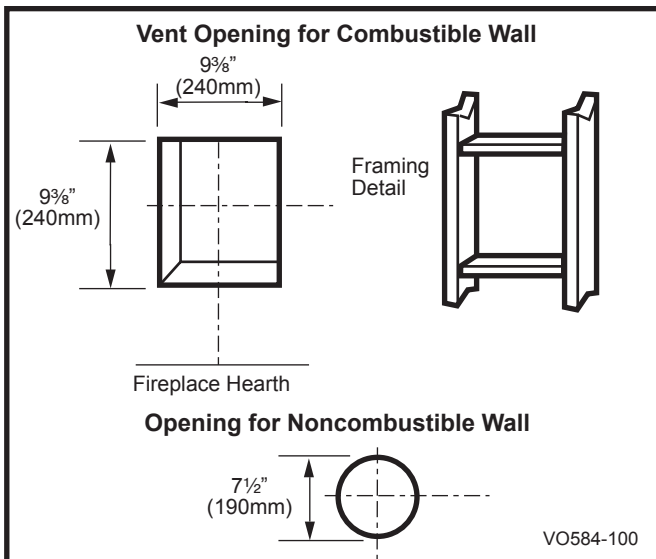

Fig. 17 Locate vent opening on wall.
Locate vent opening on the wall. It may be necessary to first position the fireplace and measure to obtain hole location. Depending on whether the wall is combustible or noncombustible, cut opening to size. (Fig. 17) For combustible walls first frame in opening.
Combustible Walls: (Fig. 17) Cut a 9 $\frac{3}{8}$ "H x 9 $\frac{3}{8}$ "W (240 x 240 mm) hole through the exterior wall and frame as shown.
Noncombustible Walls: (Fig. 17) Hole opening must be 7 1/2" (190 mm) in diameter.
1. Establish vent hole through the wall. (Fig. 17)